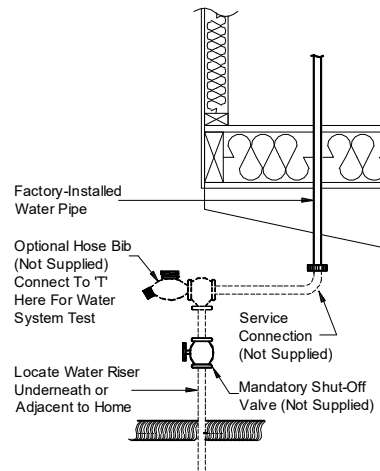

Figure 83. Water system connection
To connect the home's water system to the water source, identify the water inlet located under the home (usually below the water heater compartment or utility room) and follow the procedure described below (refer to **Figure 83**):
2. **Pressurize system.** Connect a hydrostatic pump, valve, and gauge to the location shown in **Figure 83**. Pressurize the system with water at 100 psi, and then isolate it from the pressure source. Bleed all air from the highest and farthest points in the system.